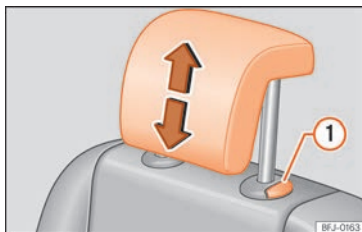

Fig. 106 Removal of the rear headrests: second row of seats.
- Remove the headrest completely while pressing button » » » Fig. 106 ①.